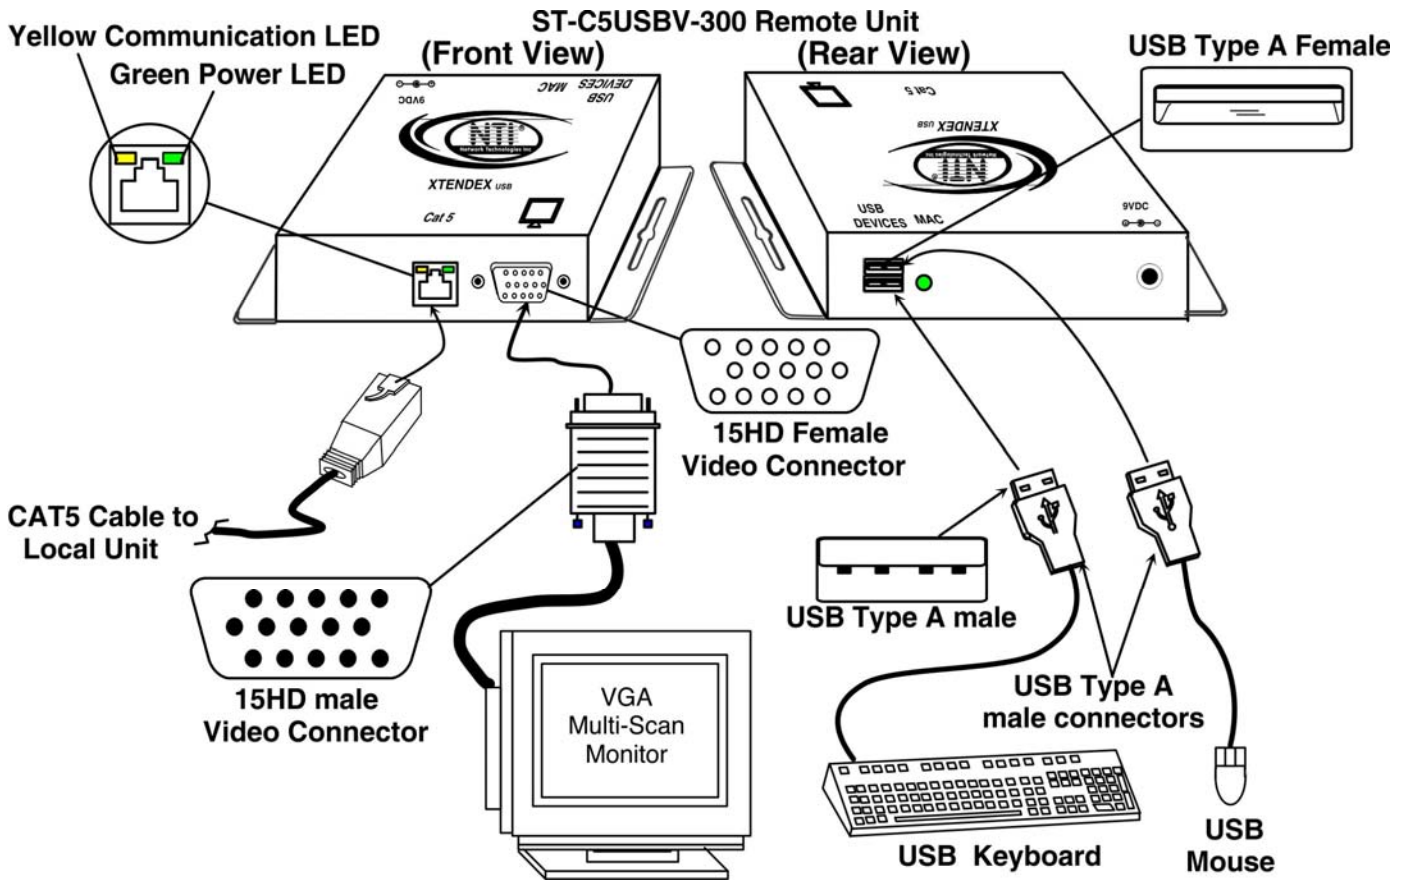

Figure 5- Connect the Monitor and Devices to the Remote Unit
1. Connect the monitor cable to the 15HD female VIDEO port on the front of the Remote Unit. (See Figure 5)